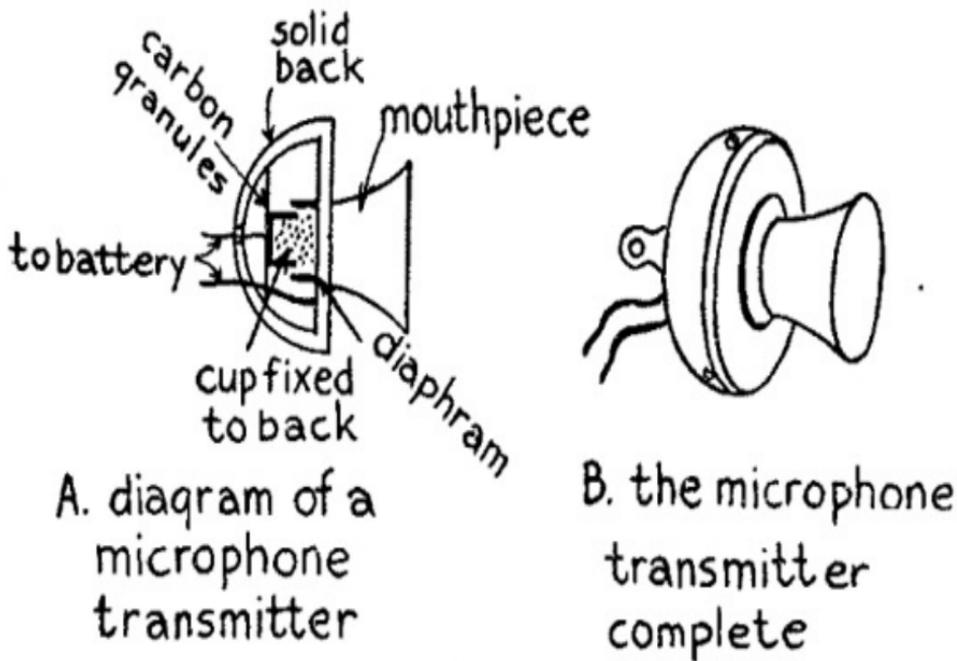

FIG. 84.—Standard Microphone Transmitter.
the Western Electric Company, Chicago, Ill.] This is known as a solid back transmitter and is the standard commercial type used on all long distance Bell telephone lines. It articulates sharply and distinctly and there are no current variations to distort the wave form of the voice and it will not buzz or sizzle. It is shown in *Fig. 84* and costs \$2.00. Any other good microphone transmitter can be used if desired.
In addition to the above apparatus you will need: (12) a *microphone transmitter* as shown in *Fig. 84*; (13) a battery of four dry cells or a 6 volt storage battery, and either (14) a *telephone induction coil* as shown in *Fig. 86*; (15) a *microphone transformer* as shown in *Fig. 87*; or a *magnetic modulator* as shown in *Fig. 88*. All of these parts have been described, as said above, in Chapter XVI, except the microphone modulators.